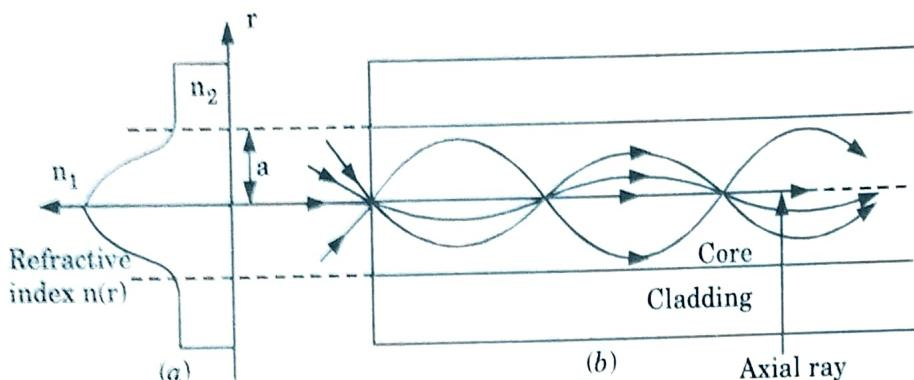

Fig. 2.14.1. A multimode graded index fiber :
4. From Fig. 2.14.1, it is shown that from the axial ray the meridional rays follow sinusoidal trajectories of different path lengths which result from index grading.